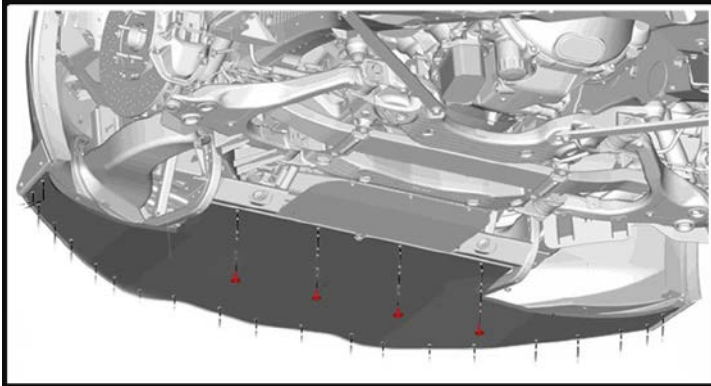

Figure 1 Stage 2/3 Separator deflector
4. Remove lower underbody air deflectors. (See figure 1 & 2 for options)